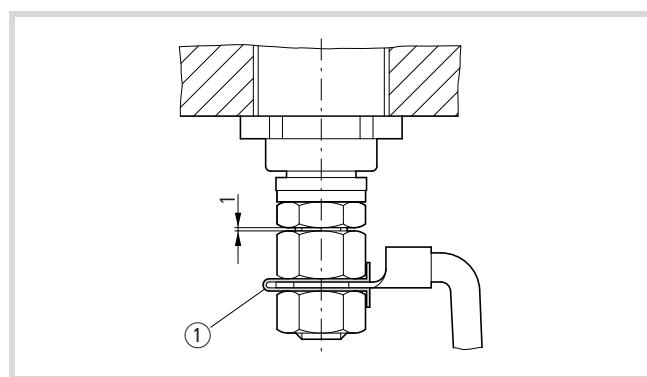

Figure 23: Securing the fastening nut
- Use a retaining plate ① (→ Fig. 23) to prevent the fastening nut from working loose.